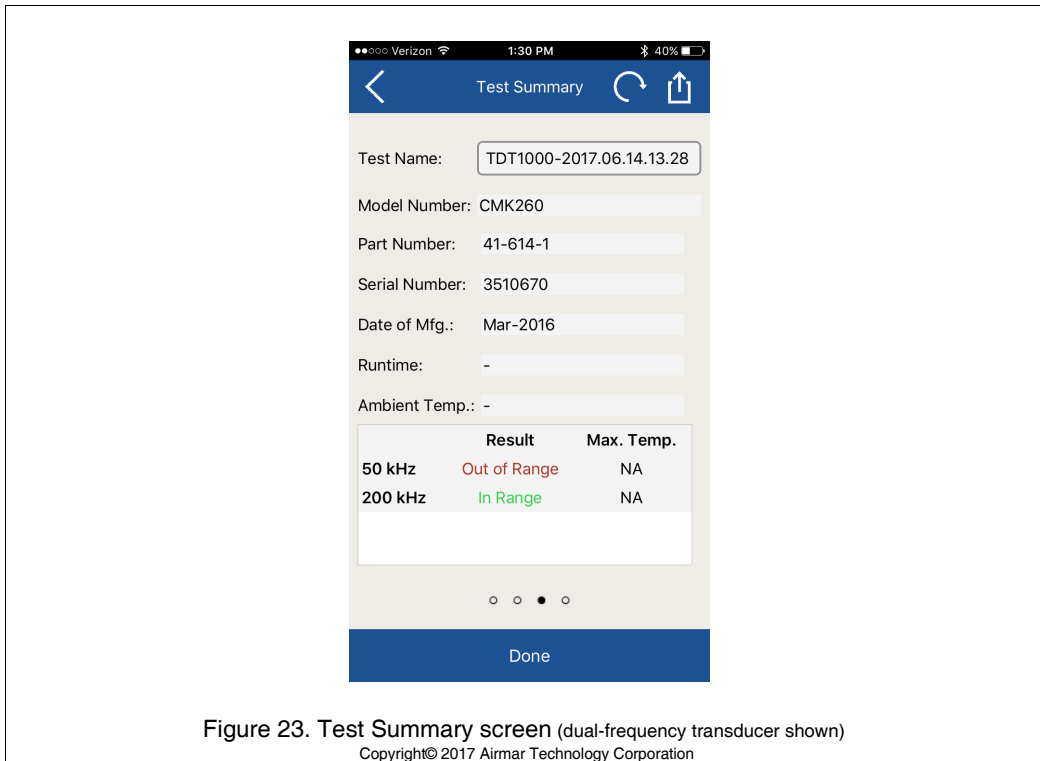

Figure 23. Test Summary screen (dual-frequency transducer shown)
- “Test Summary” will appear on the blue ribbon at the top of the screen (Figure 23).